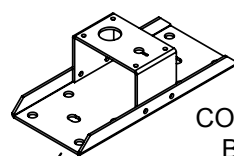

FIG 3
4. Start with the section that has the power supply cable. Ensure that there is a connection bracket on both ends (see fig 3 one may need to be moved from a other segment)